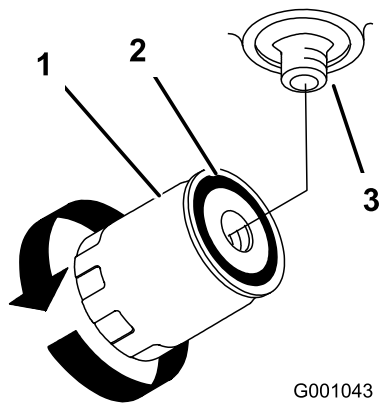

Figure 77
4. Apply a thin coat hydraulic fluid to the rubber gasket on the replacement filter (Figure 77).
7. Fill the hydraulic tank with hydraulic fluid until the fluid overflows the filter and then turn the oil filter clockwise until the rubber gasket contacts the filter adapter, then tighten the filter an additional 1/2 turn (Figure 77).